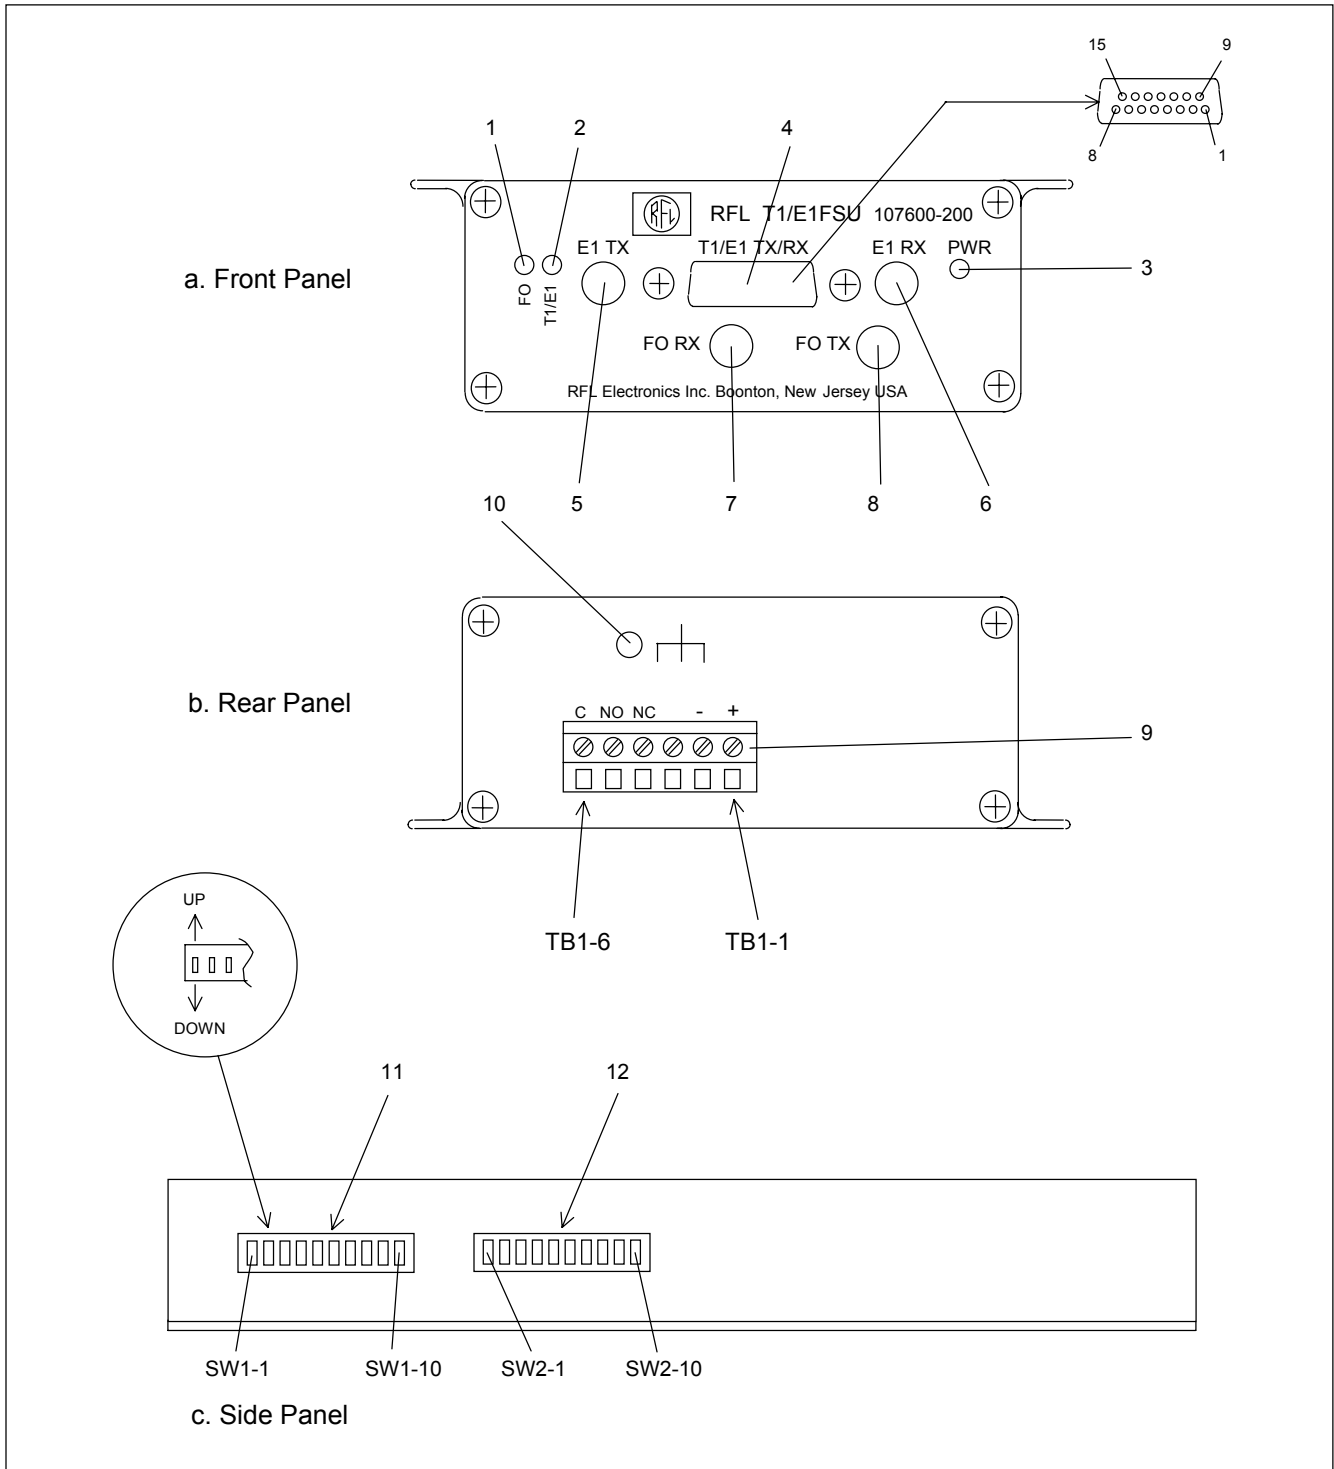
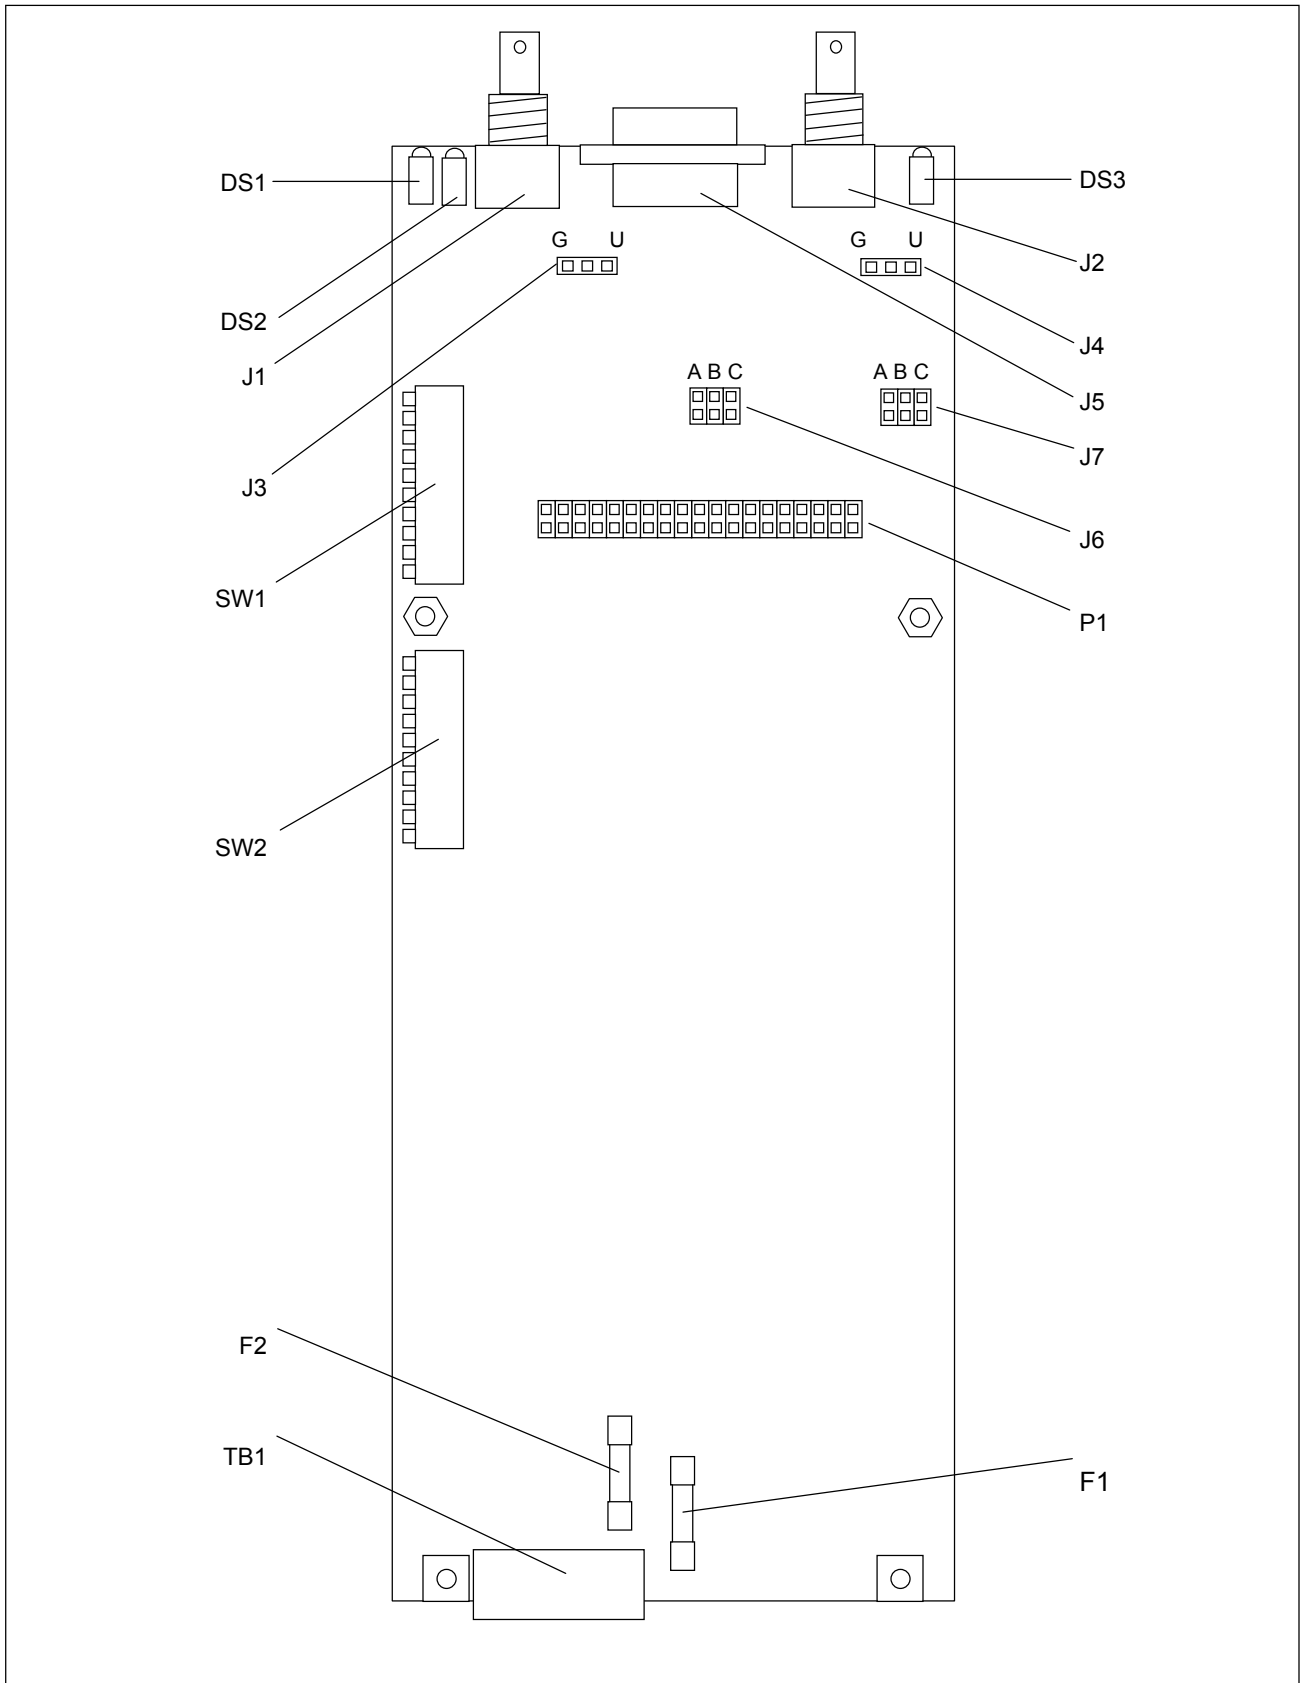

Figure 2. Fiber Service Unit, front, rear, and side panel controls and indicators
Figure 3. Controls and indicators, T1/E1 Fiber Converter board (Board A)
The RFL TX/RX FSU has user controls and indicators as shown in Figure 2. The figure shows the location of all controls, indicators and connectors on the front, rear and side panels of the FSU module. Figures 3 and 4 show the location of controls and indicators on Board A and Board B. The function of all controls and indicators are described in Tables 2 through 5, and Table 8.
*See Figure 3 for jumper locations